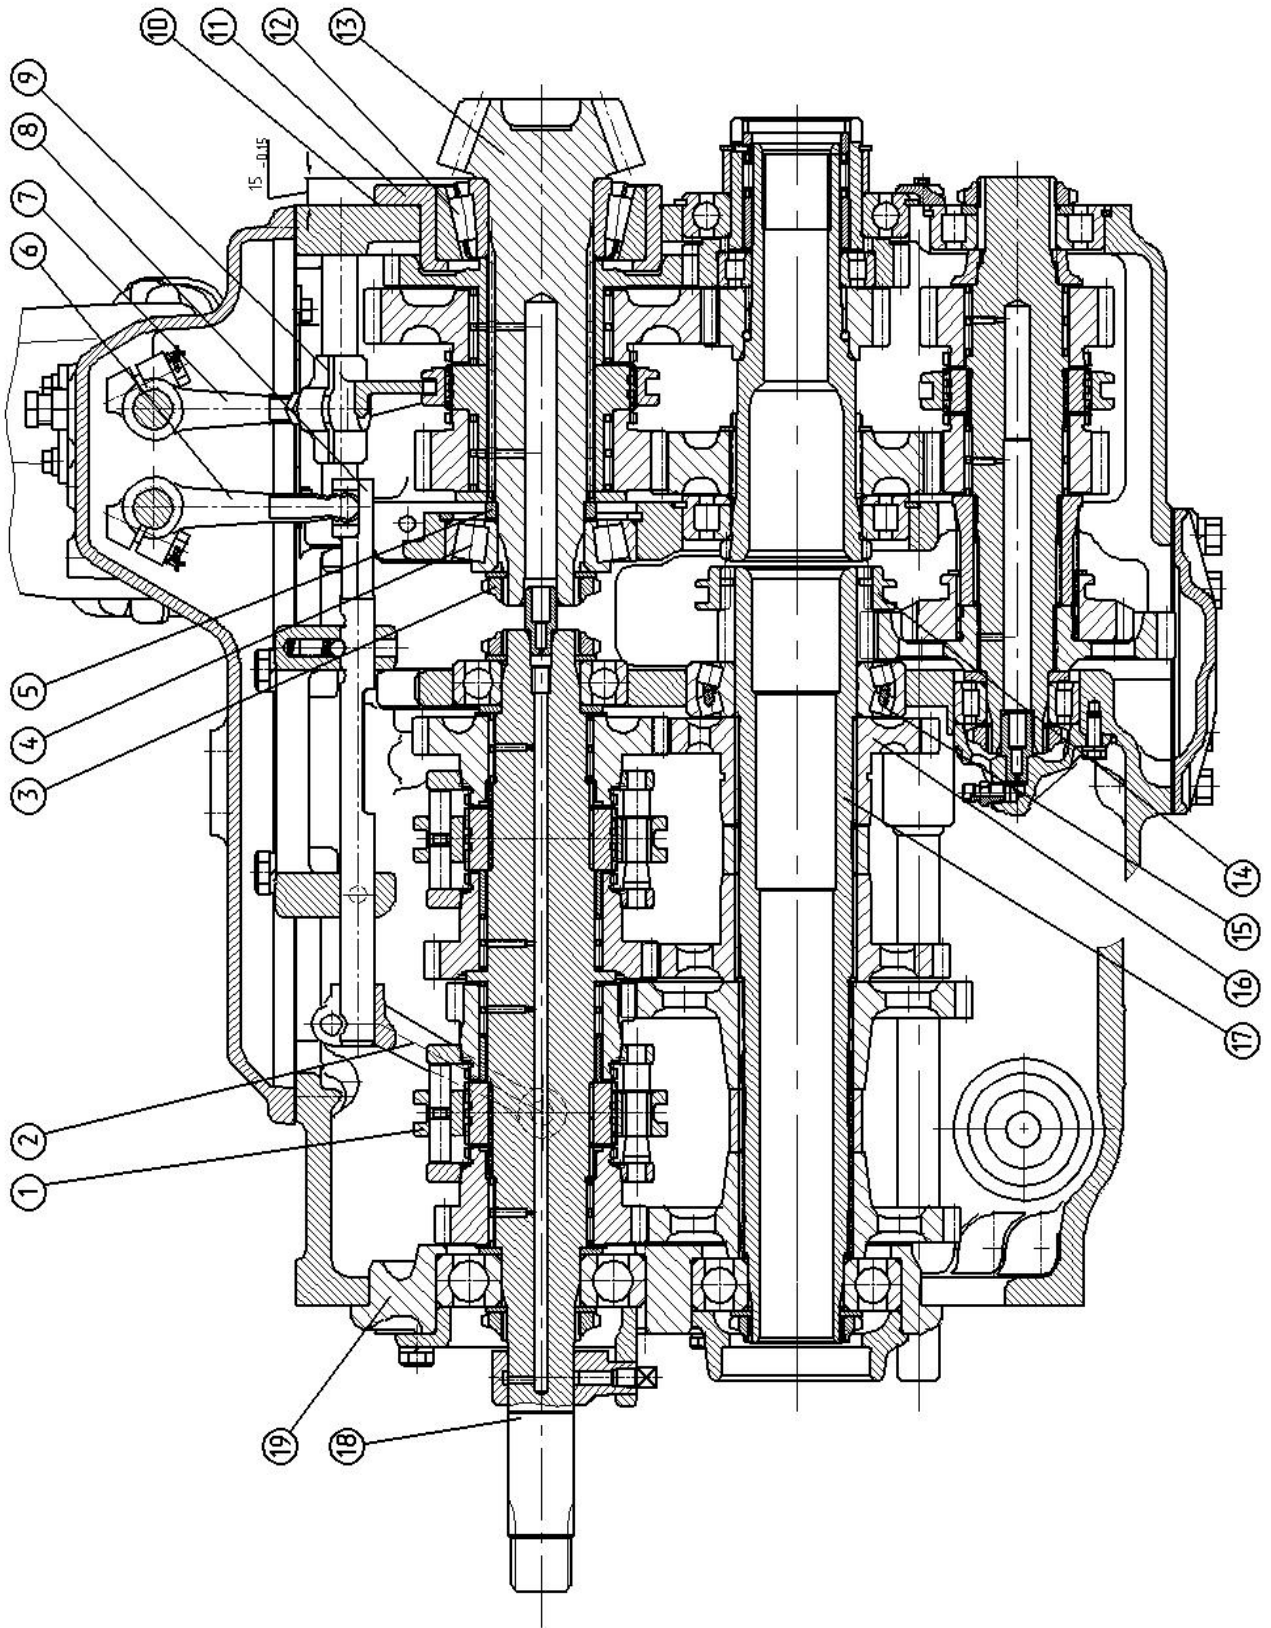

Figure 4.98
a) end face of conical bearing 12 (Figure 4.98) must be located $15_{-0,15}$.mm away from GB rear end face. Adjustment is made by putting necessary amount of spacers under cup flange 11, with nut 3 torqued to 22...30 kgf m, and adjustment washer 5 being removed.